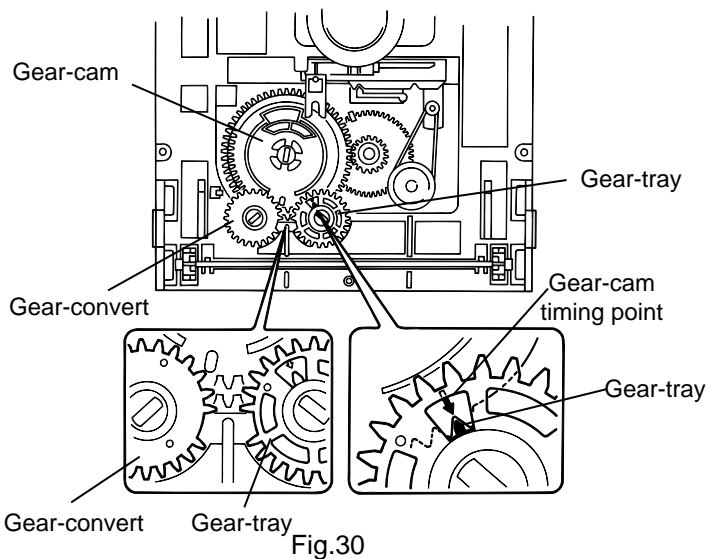

Fig.30
■Reinstall the CD tray (See Fig.30 to 31)